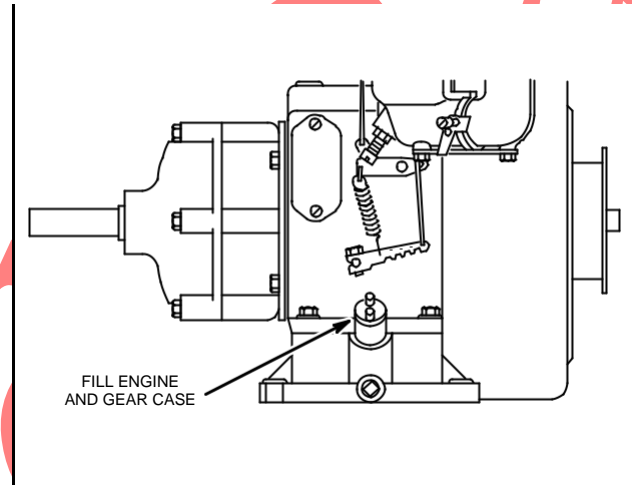

Fig. 152 - FILLING GEAR CASE
3. Recheck oil level and add oil as required to bring engine oil level up to full, Fig. 152. See Section 8, Lubrication, for oil recommendations.